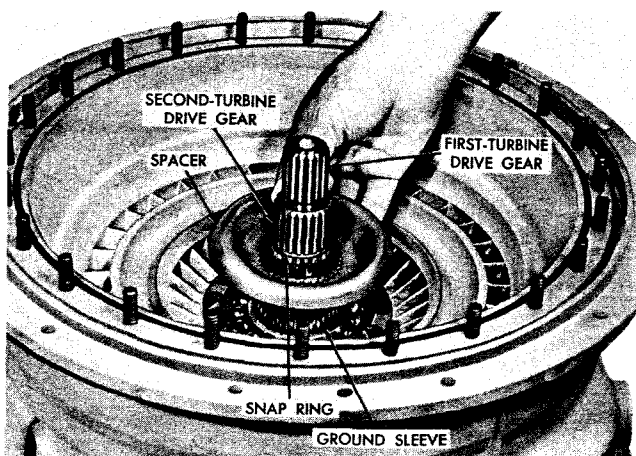

Fig. V-14. Removing spacer
(3) Remove the spacer that fits between the stator and pump (fig. V-14).